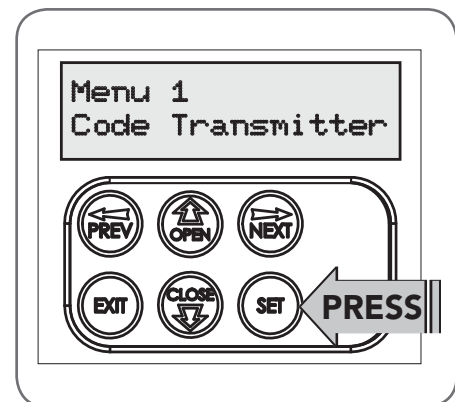

Fig 8.2
- b. Press SET to enter the code set procedure (**Fig. 8.2**).
- a. Select left or right installation side by pressing open button for the correct side (**Fig. 8.2**).